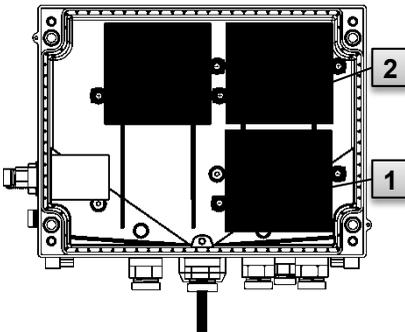

Fig. 30
4. Loosen the screws on the battery cover Fig. 30: **1** or **2** and remove the battery cover.
7. Place the new batteries inside (Fig. 30: **1** or **2** ).